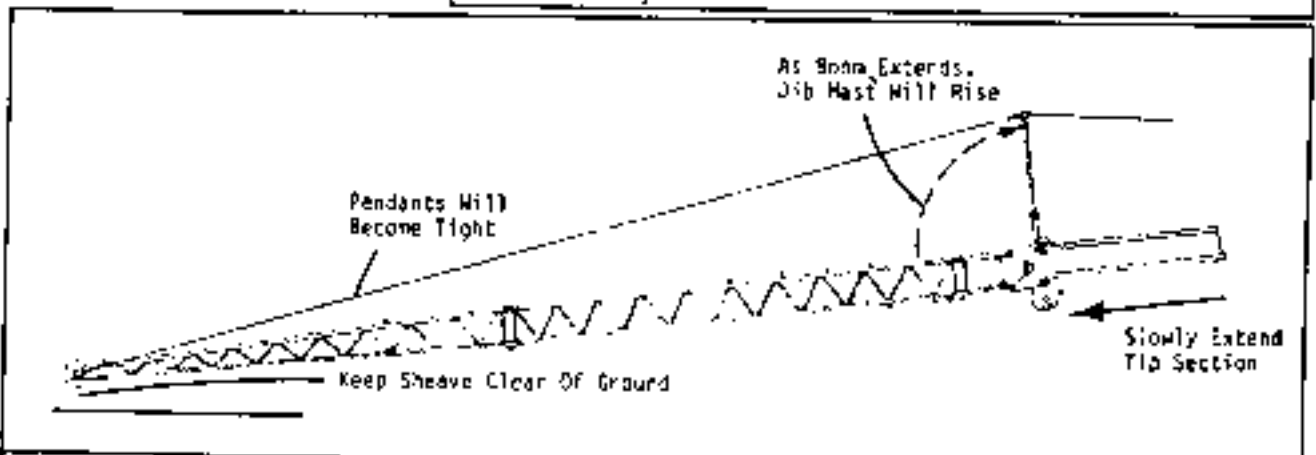

Fig. 4-46
Step 12: Refer to Fig. 4-46. Slowly extend the boom tip section keeping the jib sheave off the ground. The jib mast will raise into working position as backstay pendants draw tight. Exercise caution that jib pendants and jib mast do not catch on any obstructions. Do not force the jib sheave against any obstructions.